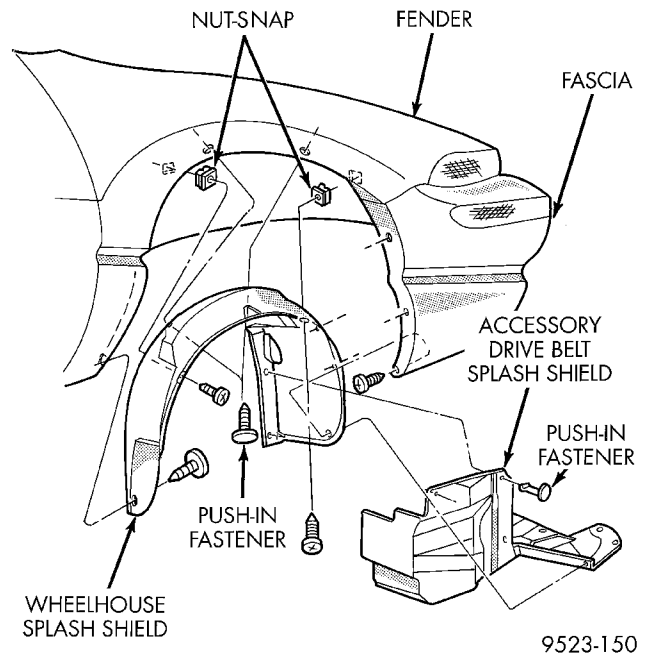

Fig. 17 Right Inner Splash Shield
- (2) Disconnect and remove battery and tray. Set Powertrain Control Module (PCM) aside.
- (3) Drain cooling system. Refer to Group 7, Cooling System for procedure.
- (4) Remove upper radiator hose, radiator and fan module. Refer to Group 7, Cooling System for procedure.
- (5) Remove lower radiator hose.
- (6) Disconnect automatic transmission cooler lines and plug. If equipped.
- (7) Disconnect clutch cable (Manual) and transmission shift linkage.
- (8) Disconnect throttle body linkage.
- (9) Disconnect engine wiring harness.
- (10) Disconnect heater hoses.
- (11) Discharge Air Conditioning System. Refer to Group 24, Air Conditioning for procedure.
- (12) Hoist vehicle and remove right inner splash shield (Fig. 17).
- (13) Remove accessory drive belts. Refer to Group 7, Cooling System for procedure.
- (14) Remove axle shafts. Refer to Group 2, Suspension and Driveshafts for procedure.
- (15) Disconnect exhaust pipe from manifold.
- (16) Remove front engine mount.
- (17) Manual transmission: Remove power hop damper.